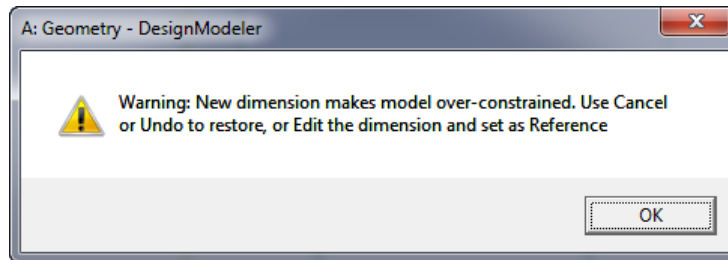
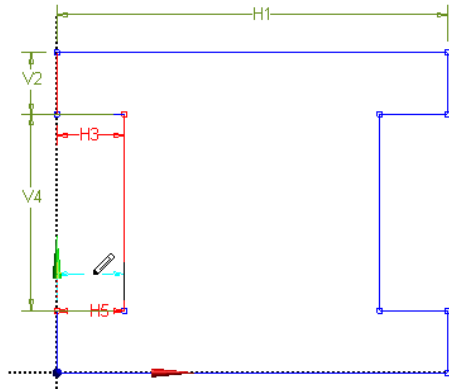

Figure 3-29 Warning message
Figure 3-30 Over-constrained sketch
1. When line 11 is selected for dimensioning, the **Geometry - DesignModeler** warning message box is displayed, as shown in Figure 3-29. This message states that placing this dimension will over-constrain the sketch and you can edit and place this dimension as a reference. On choosing the **OK** button from the warning message box, the dimension of line 9 will turn red, indicating that the sketch is over-constrained, as shown in Figure 3-30.